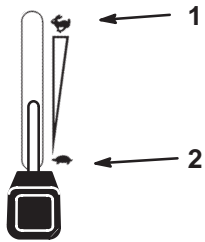

Figure 15
5. Move the throttle control to the Fast position before starting a cold engine (Fig. 15).
1. Push the PTO to off (Fig. 15).
2. Move the throttle lever midway between the slow and fast positions (Fig. 15).